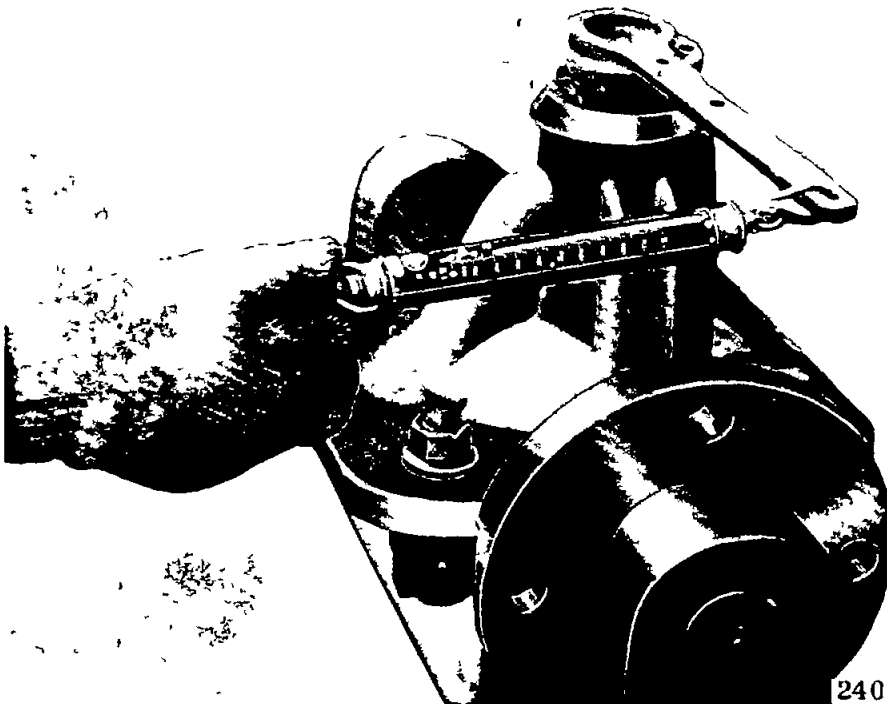

Fig. 7 Pinion Bearing Preload Gauge
- 5) The formal adjustment of the drive pinion, bearing and preload. After the fixing position of the drive pinion is decided as mentioned in the previous paragraph, take off the pinion nut & companion flange to mount again the drive pinion bearing spacer (distance piece) and nut. Tighten up the nut Fig 8 by using the torque wrench at the regular torque of 100-120 ft /lbs (13 83-16 62 kg-cm). The preload supported by the bearing in this case is different according to the condition of the bearing adjusting shim inserted. The more of the shim inserted, much the play of pinion to the direction of axle is increased. The less of the shims inserted, the more the bearing tightened by the previously mentioned nuts and cause it to be burned if left and turned as it is. Therefore, for read-justment of the bearing preload in this case, it must be adjusted by increasing or decreasing the number of four kinds of adjusting shim as shown in the following list and measuring with the use of the drive pinion bearing pre-load gauge as Fig 7 so as to make the revolving torque of pinion at 7-10 kg/cm. If there should not be any error in the pinion with the head mark at 0 and the clearance should be sealed at 0.2 mm (0.008 in) by the feeler gauge.\*